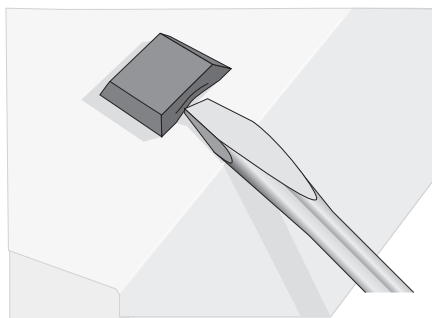

Figure 9. Removing the Feet
2. Using a flat-head screwdriver, remove the self-adhesive rubber feet from the bottom of the switch, as shown in Figure 9.